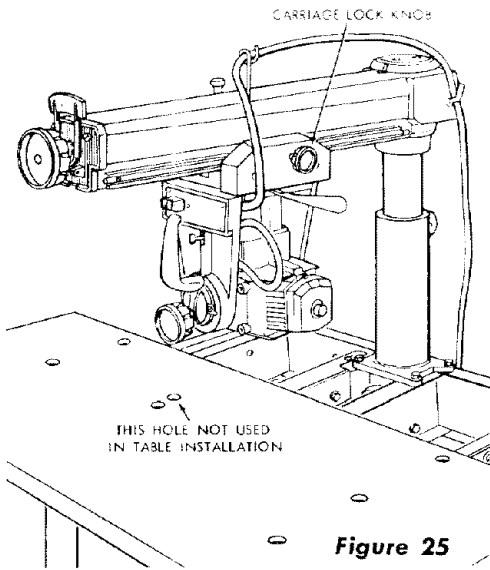

Figure 25
- b. Place a 1/4-inch flat washer on each of the seven 1/4-20 x 1-inch, pan-head screws and insert a screw (and washer) through each of the seven counterbored holes in the front table (See figure 25) and through holes in table supports. One screw, near the center of the table is threaded into the U-clip nut mounted on the forward end of the No. 2 support.
- a. Loosen the carriage lock knob, move the motor to approximately center of table and tighten the carriage lock knob. (See figure 25.)